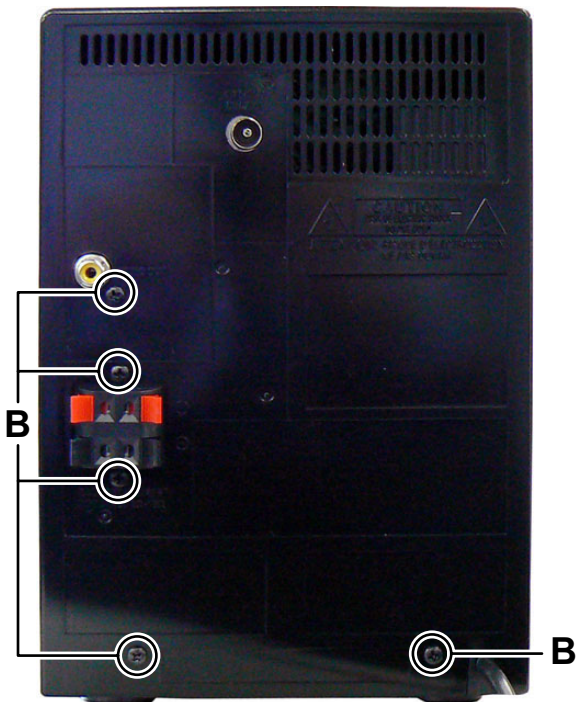

Fig.2
- (2) Remove the five screws **B** attaching the Top cabinet. (See Fig.2)